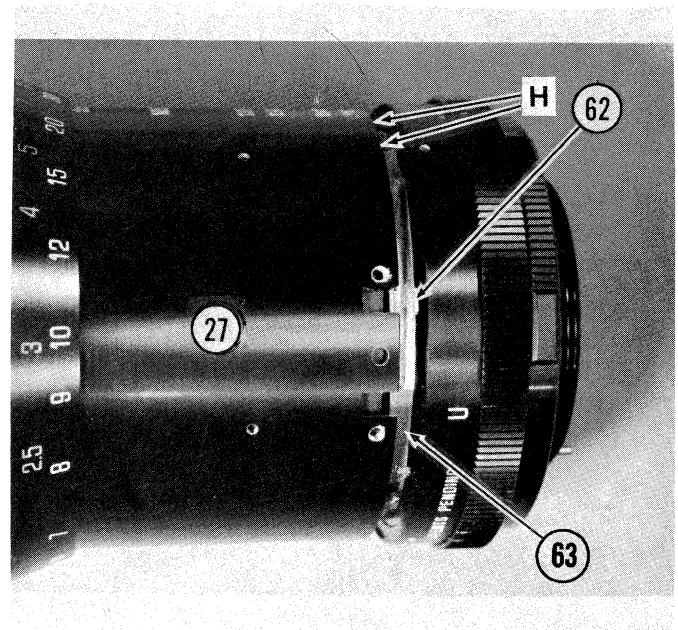

Fig. 6
- 1.2.6 Assure that Latch Spring Booster Spring (63) is under Latch Spring (62). (Fig 6)
- 1.2.7 Depress Latch Spring; slide Change Ring (27) rearward to seat against F/Stop Index Ring, passing macro notch in Change Ring over vertical tabs on Latch Spring. (Fig. 6)